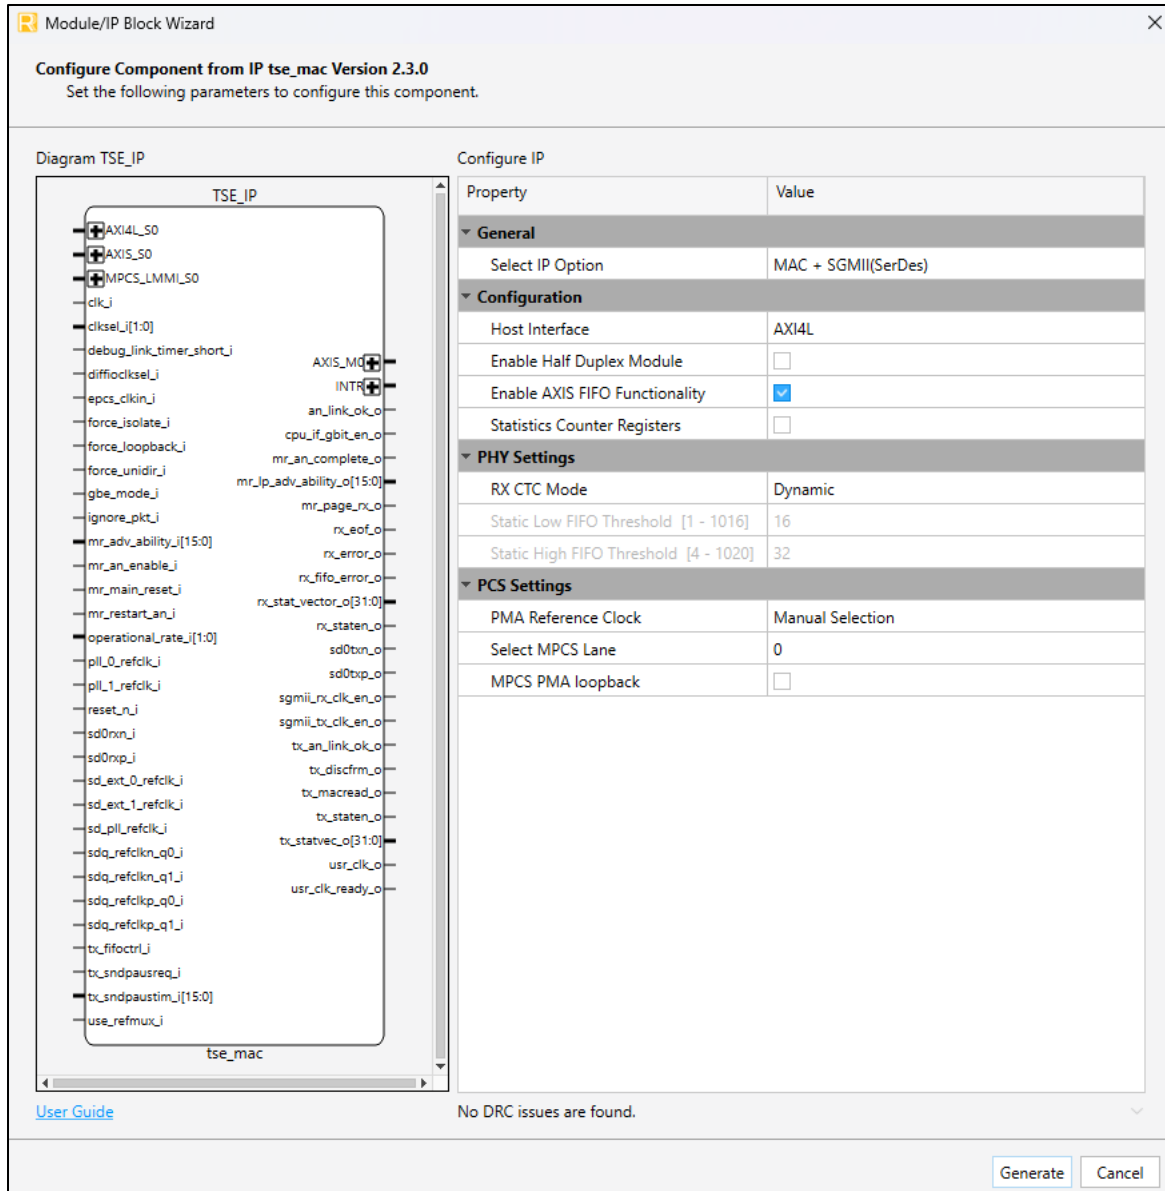

Figure 7.2. IP Configuration
3. In the next **Module/IP Block Wizard** window, customize the selected TSE IP using the drop-down list and check boxes. Figure 7.2 shows a configuration example of the TSE IP. For details on the configuration options, refer to the IP Parameter Description section. For RGMII interface configuration, follow the instructions in the Using Hardware Example Design section and use the MII/GMII MAC operating option.